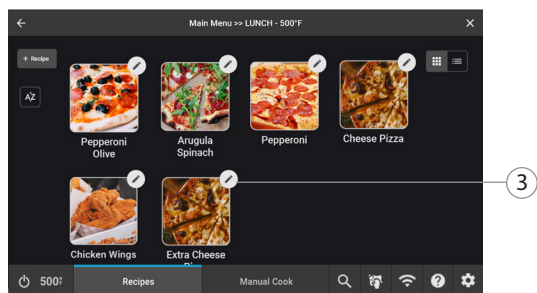

Figure 36: Select Recipe to Edit
3. Touch the Edit Pencil button for the group you want to edit (Figure 36, above).